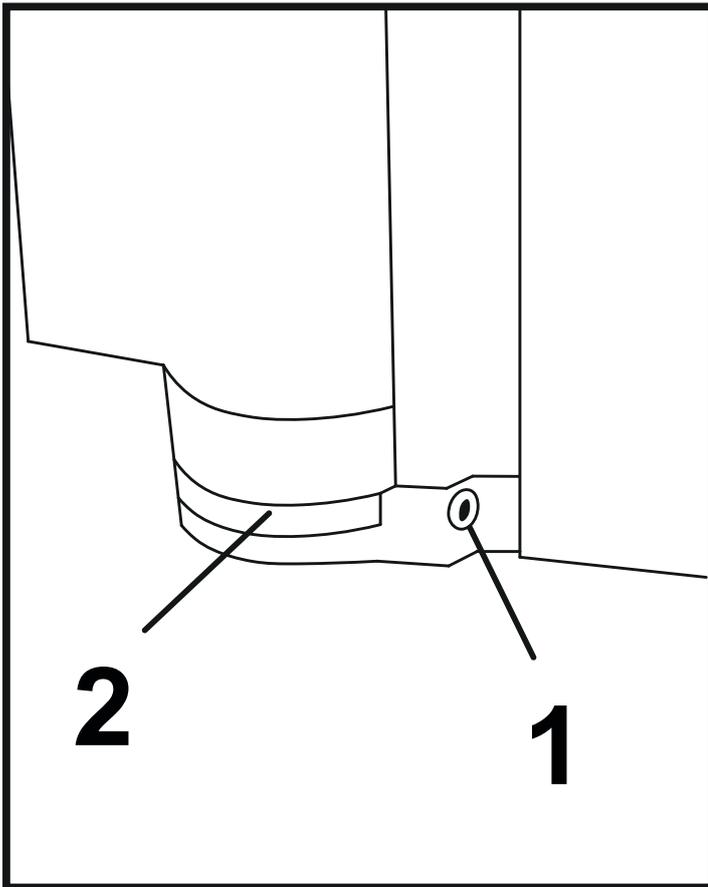

Figure 17
16. To adjust the mono hinges, loosen both mounting screws (1) on the washer by a few turns using the included Allen key. (Figure 17)
17. Move the glass (2) to the desired position where you want to secure the door.
18. Once the glass (2) is in the desired position, tighten the washer mounting screws (1).